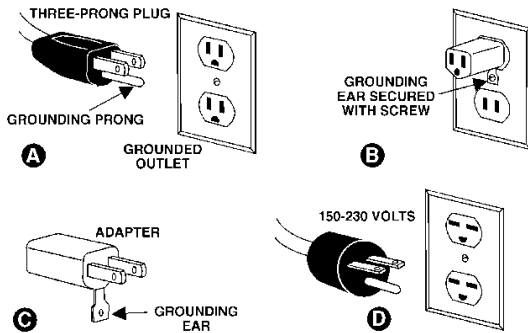

Figure 14
The PM2800B drill press is rated at 115/230V power, and is pre-wired for 115 volt. The drill press comes with a plug designed for use on a circuit with a grounded outlet that looks like the one pictured in **A**, Figure 14.
This tool is intended for use on a circuit that has an outlet that looks like the one illustrated in **A**, Figure 14. An adapter, shown in **B** and **C**, may be used to connect this plug to a 2-pole receptacle as shown in **B** if a properly grounded outlet is not available. The temporary adapter should be used only until a properly grounded outlet can be installed by a qualified electrician. *This adapter is not permitted in Canada.* The green-colored rigid ear, lug, and the like, extending from the adapter must be connected to a permanent ground such as a properly grounded outlet box.
This tool is intended for use on a circuit that has an outlet that looks like the one illustrated in **D**, Figure 14. The tool has a grounding plug that looks like the plug illustrated in **D**. Make sure the tool is connected to an outlet having the same configuration as the plug. No adapter is available or should be used with this tool. If the tool must be reconnected for use on a different type of electric circuit, the reconnection should be made by qualified service personnel; and after reconnection, the tool should comply with all local codes and ordinances.
3. The 115V attachment plug supplied with the drill press must be replaced with a UL/CSA listed plug suitable for 230V operation, similar to the plug illustrated in **D**, Figure 14. Contact your local authorized Powermatic Service Center or qualified electrician for proper procedures to install the plug.